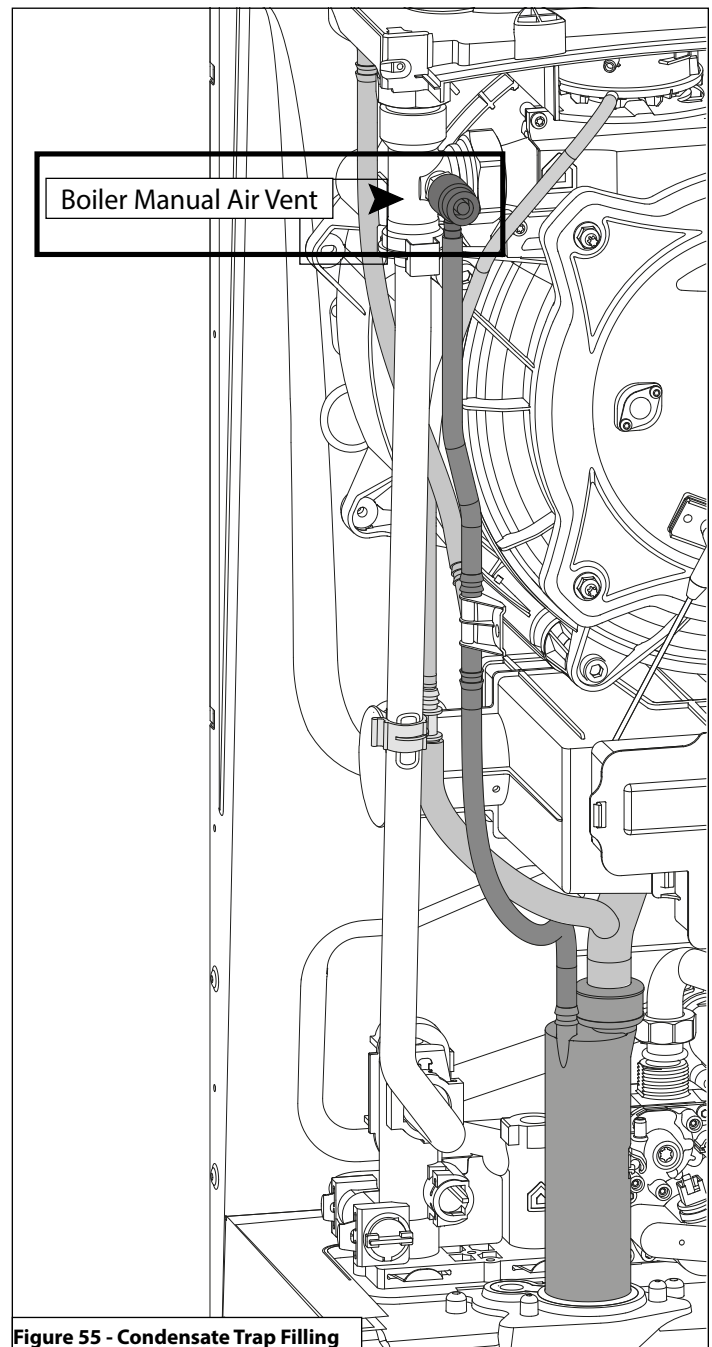

Figure 55 - Condensate Trap Filling
6. Local building codes may require an in-line neutralizer to be installed (not included) to treat the condensate. See Figure 55. If required by local authorities, a condensate filter of lime crystals, marble, or phosphate chips will neutralize slightly acidic condensate. Follow all the installation instructions included with the neutralizer. If a neutralizer is installed, periodic replacement of the limestone (or neutralizing agent) will be required. The rate of depletion of the limestone varies with usage of the boiler. During the first year of boiler operation, check the neutralizer every few months for depletion.
Ensure the siphon contains water. If the siphon does not contain water it must be filled. Open the manual air vent on the main heat exchanger until filling is complete. See Figure 55. Check the system pressure with a pressure gauge.